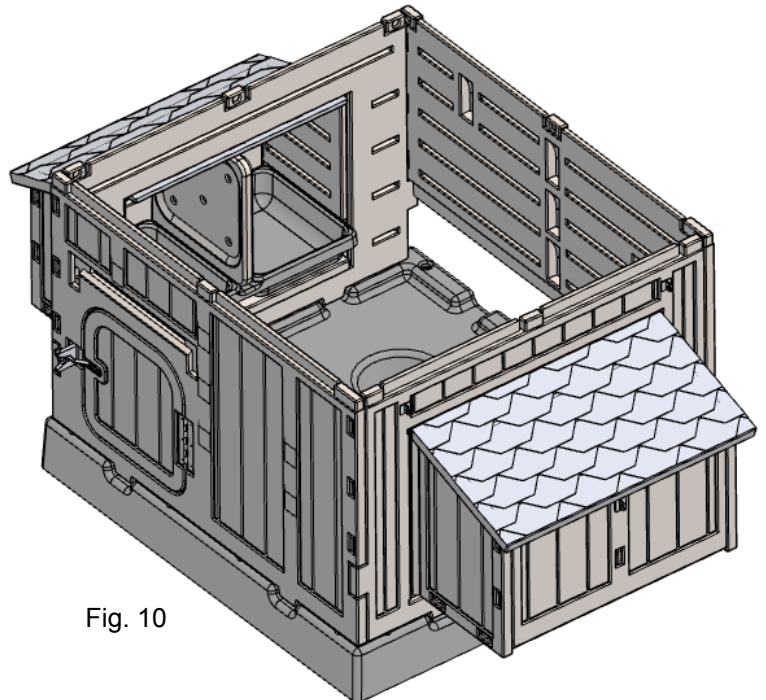

Fig. 10
Step 10: Repeat steps 6 through 9 to complete the Nest Box Assembly on the other Nest Side Wall.(Fig. 10)